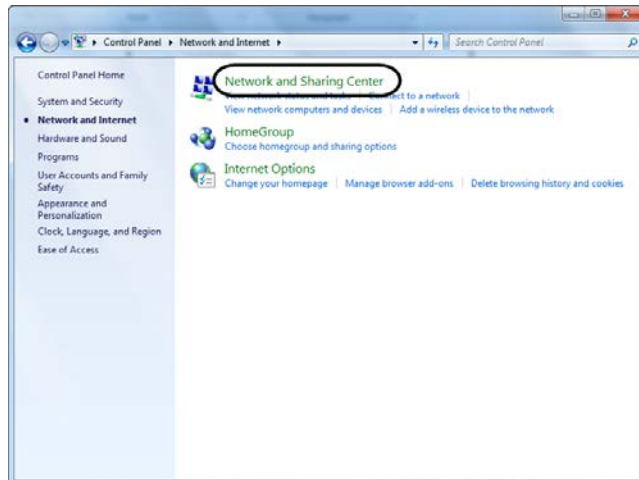

Figure 21
3. Click on the **Network and Sharing Center** link (Figure 21).